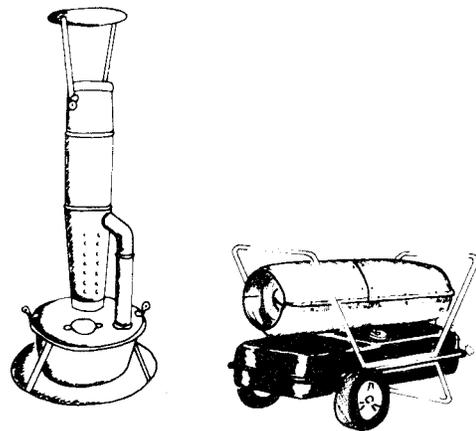

Figure 22. (a) Radiant heater, (b) hot-air heater.
**Portable Oil.** Oil-fueled portable space heaters (Fig. 22), such as Salamanders used in the building trades, should not be used in hobby greenhouses. They give off vast amounts of harmful fumes and soot. Heat radiates away from their surface and could damage plants nearest the heaters.